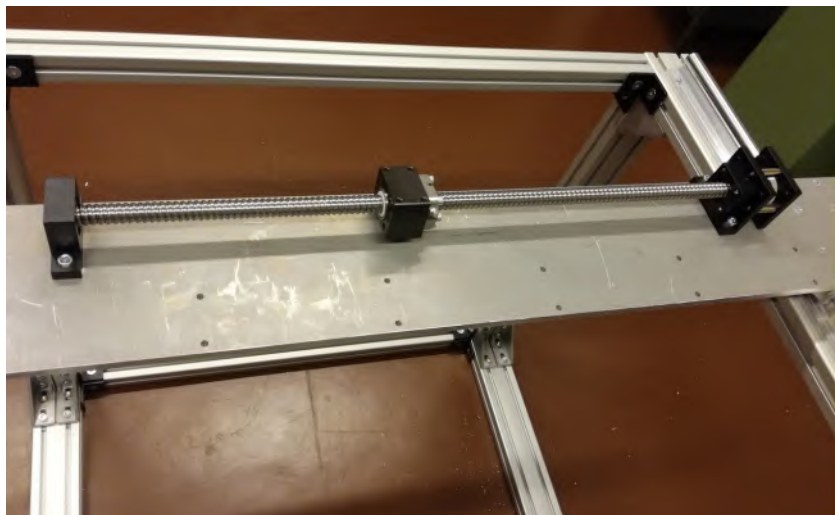

Figure 25: Attached linear axis (y-axis) to plate 1.
10.1. Attach plate 1 to the four linear bearings from (Figure 25).